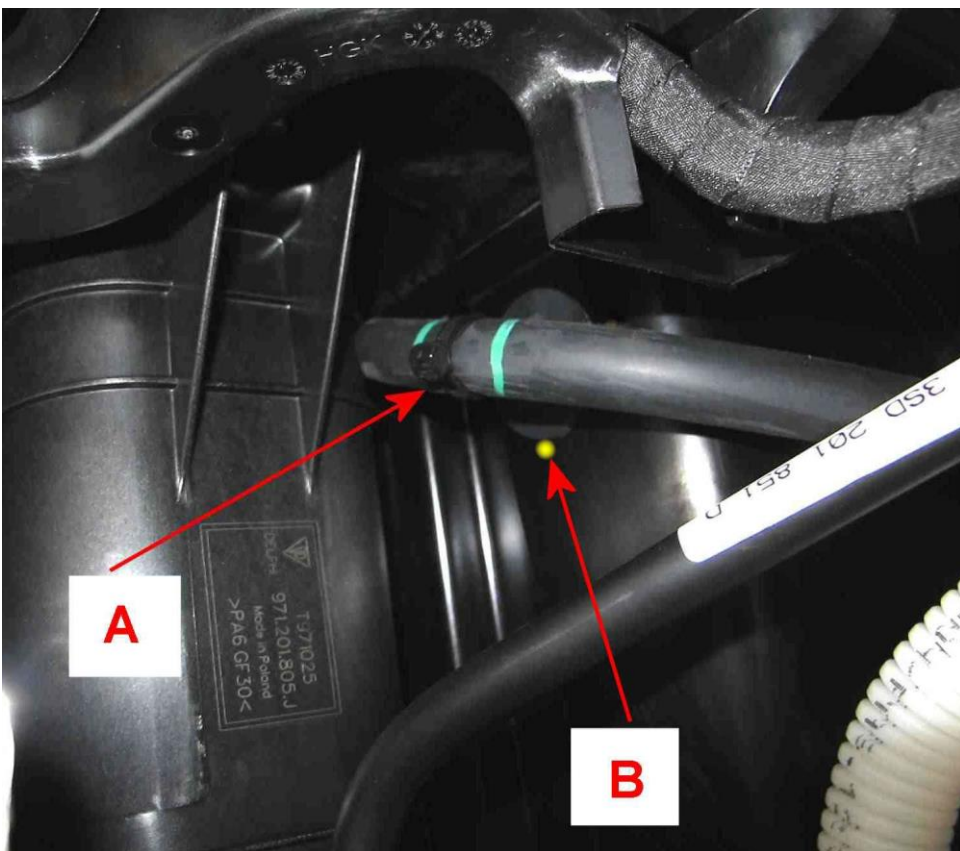

Figure 3
2) Referring to Figure 3–Locate the air supply unit exhaust hose- Cut the cable tie shown (Point A)